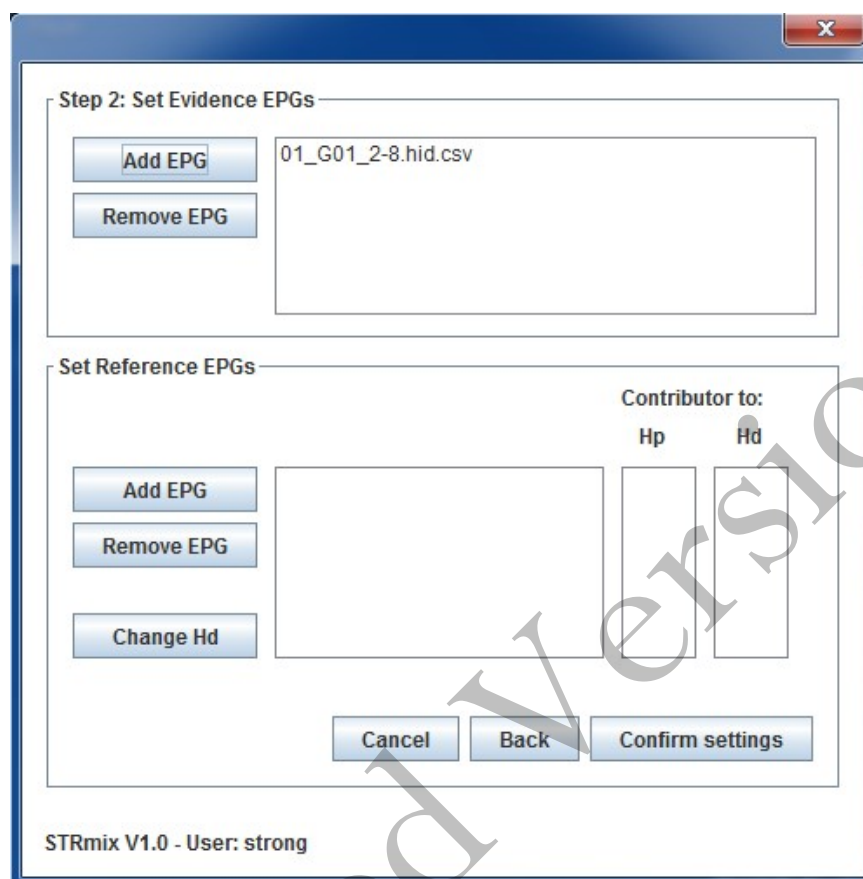

FIGURE 4
Additionally, sometimes evidence profiles may run, but a 99% lower HPD cannot be calculated because the Effective Sample Size returns NaN (not a number). This may be due to a missing stutter peak in the text file, and the data should be evaluated to see if a corrected file should be analyzed. If no obvious reason is apparent for the inability to calculate the 99% lower HPD, a point estimate of the LR can be reported instead of the HPD value. This can be accomplished by deselecting Calculate HPD in the window in Figure 4. When necessary, the report should specifically reflect that the calculation presented is a point estimate of the LR.
2. In the Set Evidence EPGs screen select Add EPG to open Add EPG window (see Figure 4)
Select Confirm Settings to proceed to the next step (refer to Figure 4).
1. During either a single sample analysis or batch analyses, from the Populations Settings window (Figure 4), select Start and Search.
4. The window in Figure 4 will open. Only the Set Reference EPGs will be available. If any contributors need to be assumed at this point, the deconvolution should be repeated as this is not an available feature when conducting an LR from Previous Analysis. Navigate to the reference input file/s as appropriate. Reference input files will automatically be assigned as a known contributor under Hp. Select Confirm Settings.